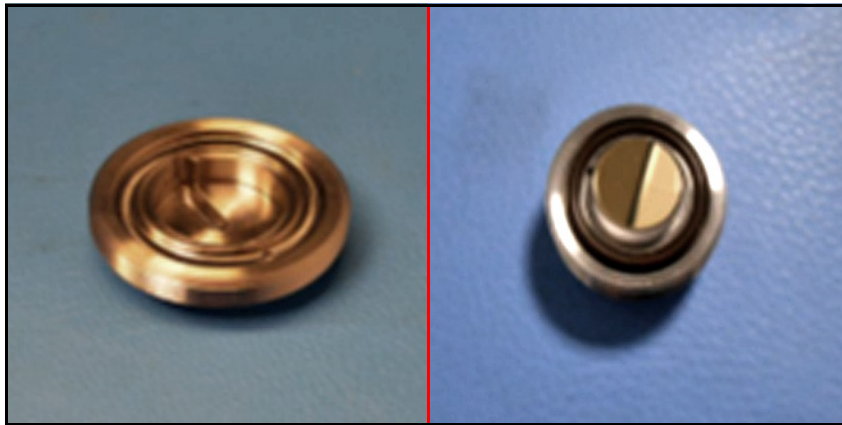

Figure 58: Replacing Cleaned Mirror into End Cap Assembly
17. If the mirror does appear to be clean, replace it into the mirror end cap, taking care not to disturb the two O-rings in the assembly (see *Figure 58* below), Prepare to re-install the mirror end cap assembly into the optical absorption cell.